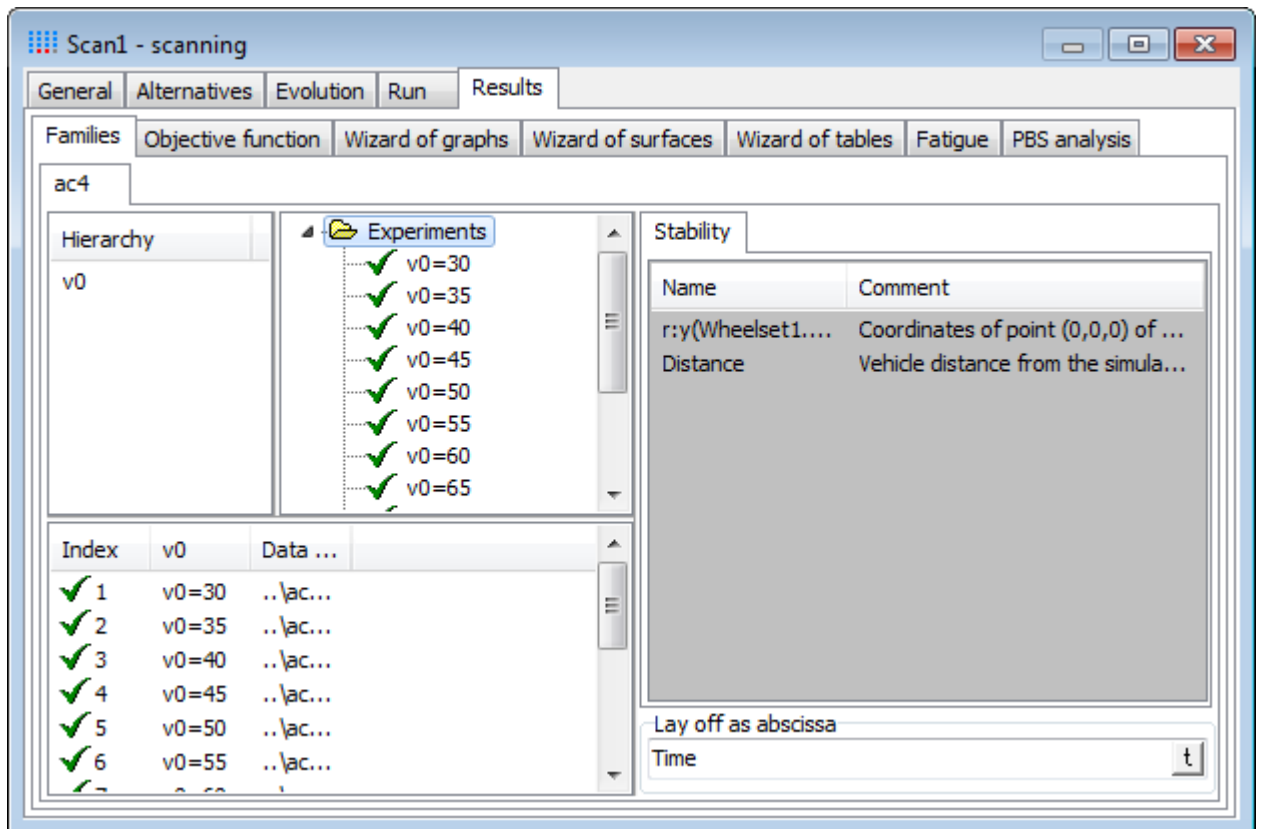

Figure 3.17. Scanning project: results
1. Select the **Results | Families | AC4** tab, see Figure 3.17.